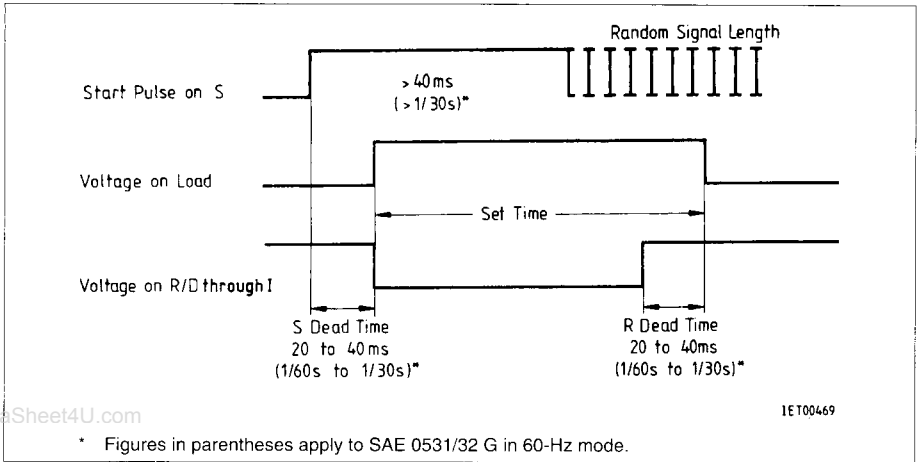

Figure 1
1. Turn-on interval DIN 46120 (**figure 1**)
Start of Time Measurement (Figure 1, 2)
Inputs N, S, R, FC, A, B, C (and CO)* have an internal pullup resistor, i.e. they are high if not wired. On start input S there are also clamping diodes to V_s and GND so that it is possible to start with external potential. Reset input R is usually connected to one or more of the open-collector outputs D through I, enabling cutout of the load and resetting of the counter when the set delay has elapsed. These outputs are turned off ($R = H$) in their basic state (after reset), conduct when the time measurement starts ($R = L$) and are turned off again ($R = H$) after the delay (**see Figure 1 and 2**).